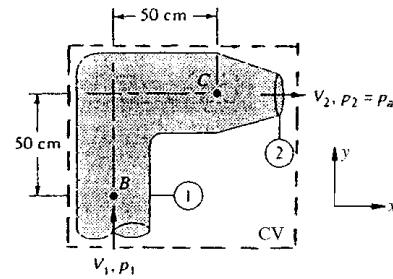

Fig. P3.121
**3.121** The pipe bend of Fig. P3.121 has  $D_1 = 27 \text{ cm}$  and  $D_2 = 13 \text{ cm}$ . When water at  $20^\circ\text{C}$  flows through the pipe at 4000 gal/min,  $p_1 = 194 \text{ kPa}$  (gage). Compute the torque required at point B to hold the bend stationary.